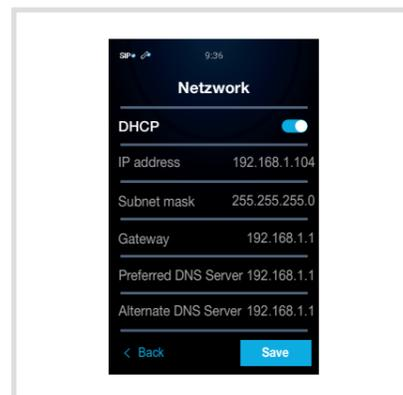

Fig. 36: Automatic assignment
- For the automatic network setting, position **DHCP** on On  (Figure 36).